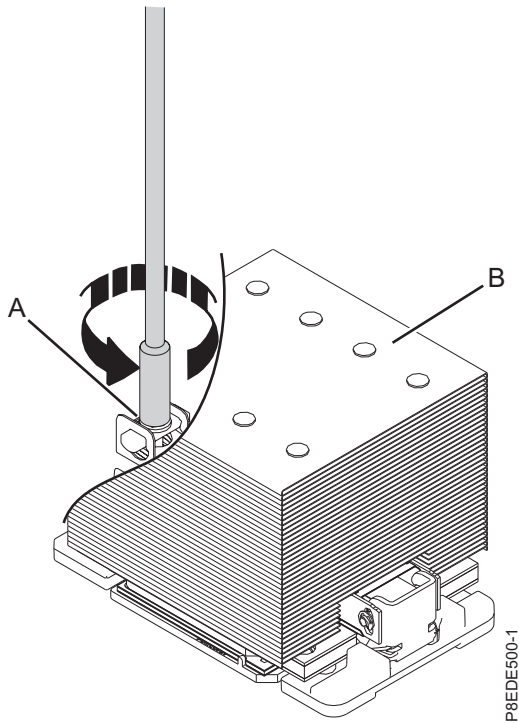

Figure 124. Removing the heat sink
- a. Loosen the heat sink actuation screw by turning the supplied 5.5 mm nut driver (part number 43W3032) counterclockwise **(A)** until the screw becomes loose and moves freely as shown in Figure 124 on page 126.